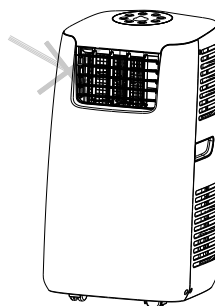

FIG. 2
- Do not place objects on the unit or block the air inlet / outlet (fig. 2).